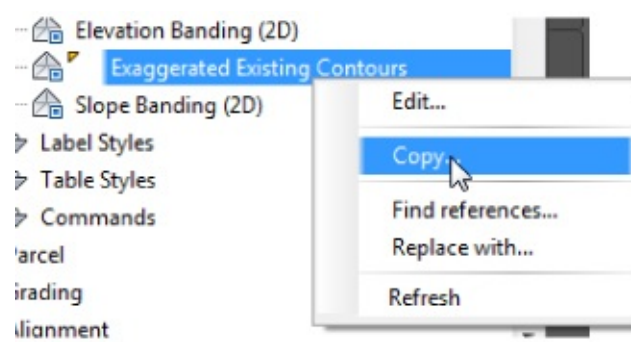

Figure 19.27 Access Copy by right-clicking the style name.
3. Right-click the Exaggerated Existing Contours style you created in the previous exercise, and select Copy, as shown in Figure 19.27.